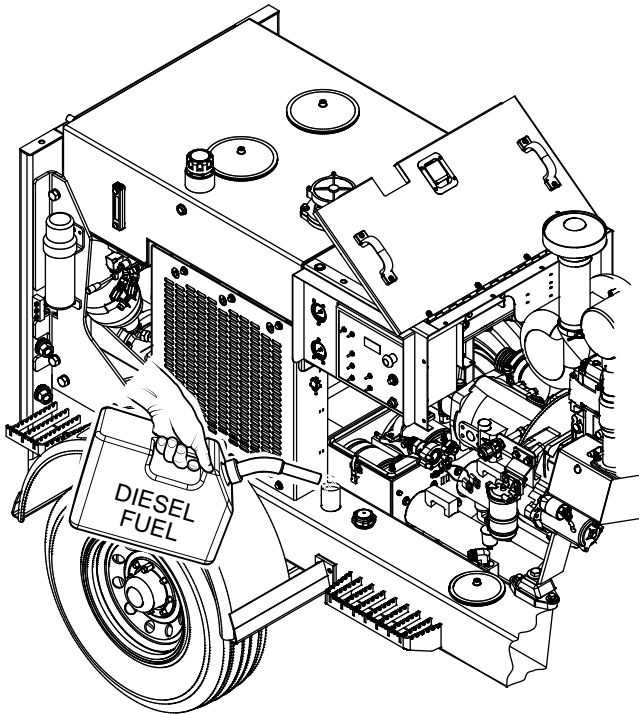

Figure 10. Adding Diesel Fuel
- If fuel is low, remove the fuel filler cap and fill the tank with #2 diesel fuel (Figure 10).